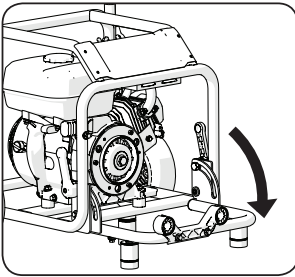

Fig 8
- Deploy the Accessory Mounting Frame. (Fig. 8)